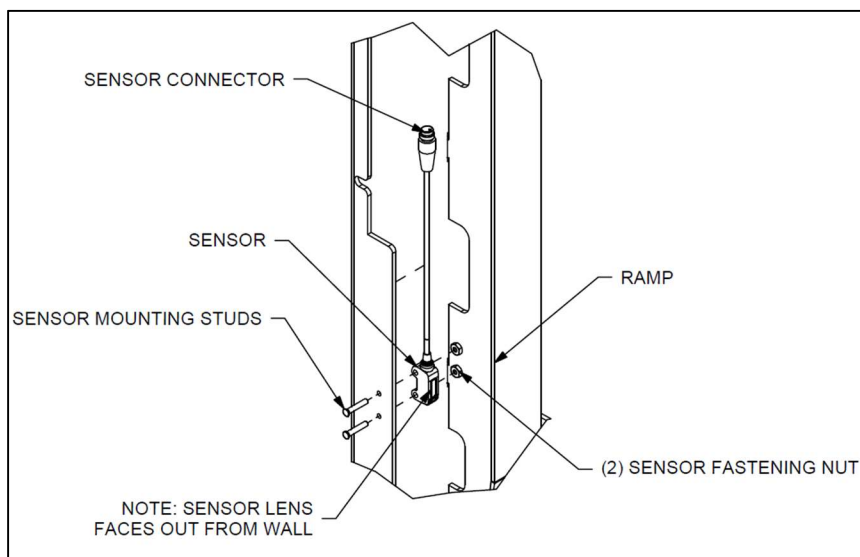

Figure 4 - SENSOR MOUNTING TO UPPER WALL ANGLE
14. Attach sensor to upper wall angle, referring to **Figure 4** for placement: